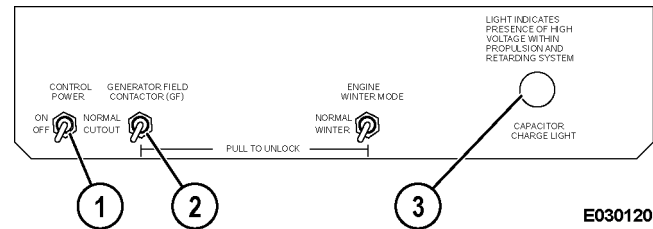

FIGURE 5-4. INFORMATION DISPLAY PANEL
4. Remove access covers (2, Figure 5-4) and access tube (1).
5. Disconnect brake system cooling lines (4) and brake apply lines (3) at the brake back plate. Cap and plug all openings.
7. Remove air duct (9) from between the wheel motors.
8. Disconnect parking brake hoses (8) for the motor that is being removed. Disconnect the nylon tube to the blower pressure switch, if necessary.
9. Disconnect wheel motor power cables (6) at the wheel motor terminals. Disconnect speed sensor harness (5) at the connector in the center of the housing.
13. Connect power cables (6, Figure 5-4) and wheel speed harness (5) to their appropriate locations on the wheel motor.
14. Connect brake apply hose (3) and brake cooling hoses (4) to the brake assembly. Use new O-rings.
15. To prevent cooling air loss, use Uniseal 310S sealant to seal the gap around the brake cooling hoses where the hoses pass through spindle holes (7).
16. After both wheel motors are installed, remove rear axle housing access covers (2, Figure 5-4) and access tube (1) at the rear of the axle housing.
17. Install the remaining hose clamps. Connect parking brake hoses (8). If removed, connect the nylon tube to the blower pressure switch.
18. Install air duct (9) between the parking brakes.
19. Install rear axle housing access covers (2) and access tube (1) at the rear of the axle housing.